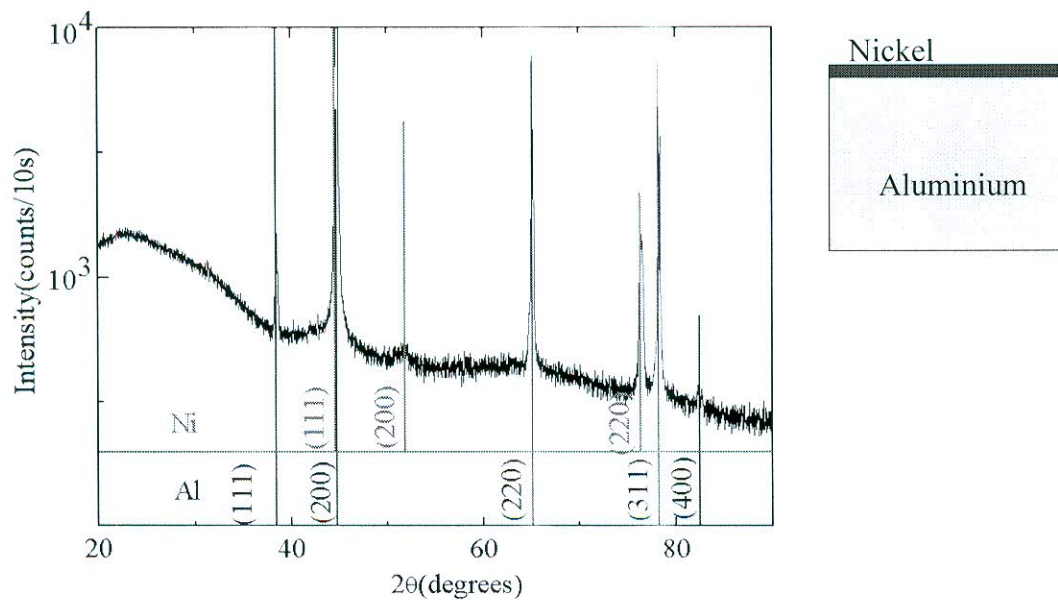

Figure 4
- [a] After performing x-ray diffraction (XRD) analysis, peak matching was done with ICDD card number # 00-004-0850 for Ni and # 00-0 004-0787 for Al. The plot of intensity versus 2θ for this sample is shown in Figure 4. Explain how the peaks were produced. Discuss also why the Ni (200) peak is very small.